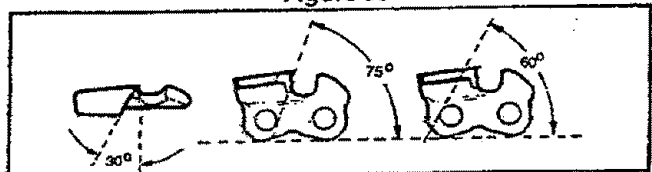

Figure 31
- f.) File chain to meet specifications shown in Figure 31.
Maintain the proper hook angle according to the manufacturer's specification for the chain you are using. Improper hook angle will increase the chance of kickback which can result in serious injury. Figure 31 & 33.